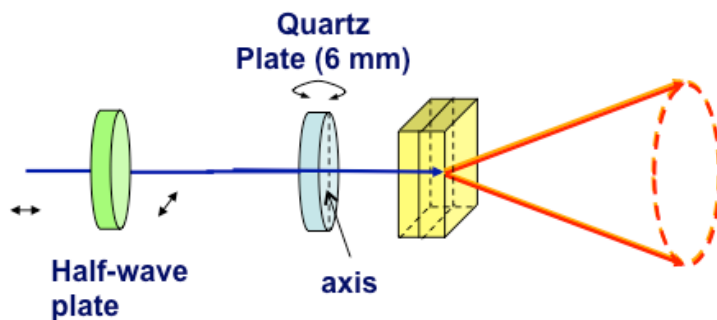

Figure 4. Schematic of the setup to make entangled states.
- 3- **If coincidences are good but the entangled state is not “good.”** This is the important step for when you want to perform a violation of Bell’s inequalities. The idea is that the entangled state HH+VV (unnormalized) transforms into DD+AA (note that signs are very important). If there is a non-2-pi phase between HH and VV, then in the diagonal basis you do not get DD+AA. If for example you have HH-VV, then in the diagonal basis you have DA+AD. So the test for a good entangled state with HH+VV is to orient the polarizers to DA (or AD) and tune the phase for a minimum (a really good one, 2% or less than maximum). For tuning this you have a half-wave plate (HWP) followed by a quartz plate (QP), of 5-7 mm in thickness with fast axis parallel to the face of the plate (so called “a-cut”), before the BBO crystal pair (we assume you know about this). This is shown in Fig. 4.